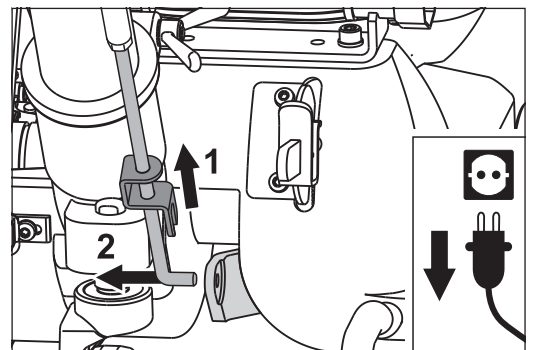

Fig. 30 Dismount the lower rod from the lifting fixture.
- 11 Dismount the lower rod from the lifting fixture (Fig. 30).